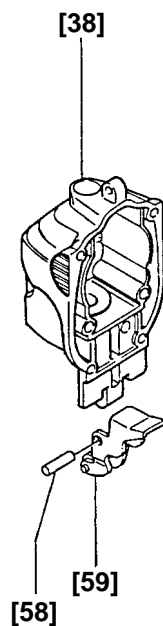

Fig. 6
(5) Disassembly of the Guide Roller [59] from the Upper Cover [38] (Fig. 6)